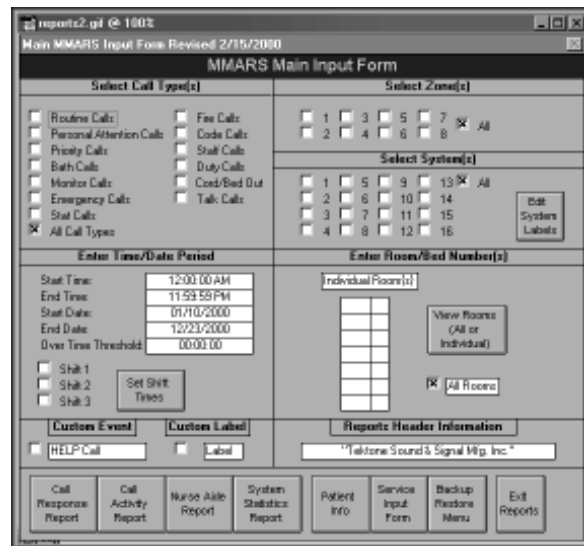

Figure 3: MMARS Main Input Form
2. Using the keyboard, select a box by using the “ARROW” keys to highlight your selection, then press the “SPACEBAR”, and an “X” will appear in your selected box. Refer to *Figure 3*.